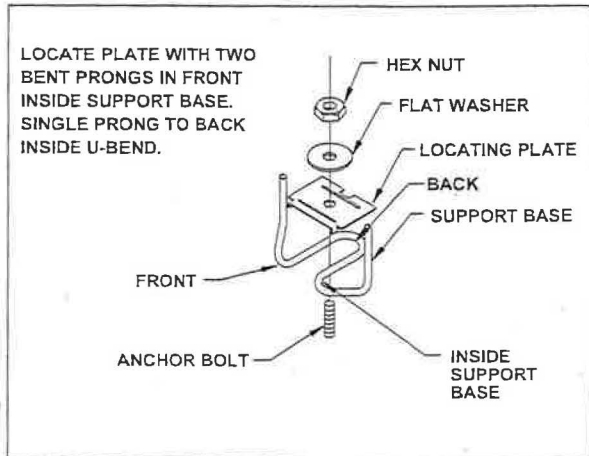

Figure 25
- Install the manifold support base and struts if required. All floor mounted anchor nuts, washers and plate washers need to be installed. If 4" Ø (100 mm) manifolds are used, a locating plate must be installed as shown in Figure 25.
- C) The rod type support base locating plate must be installed as shown per Figure 25. Tighten the hex nut to the recommended torque value as listed by the anchor bolt manufacturer in their installation instructions.